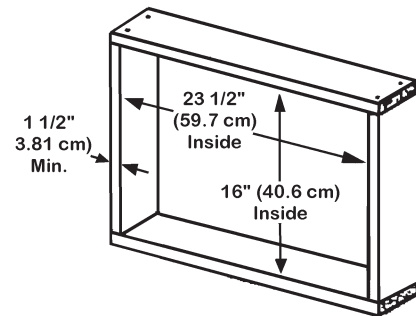

Figure 2
- Construct the finished wood frame of 2" (5.08 cm) thick lumber or thicker. See figure 2. Apply wood preservative to outside exposed surfaces.